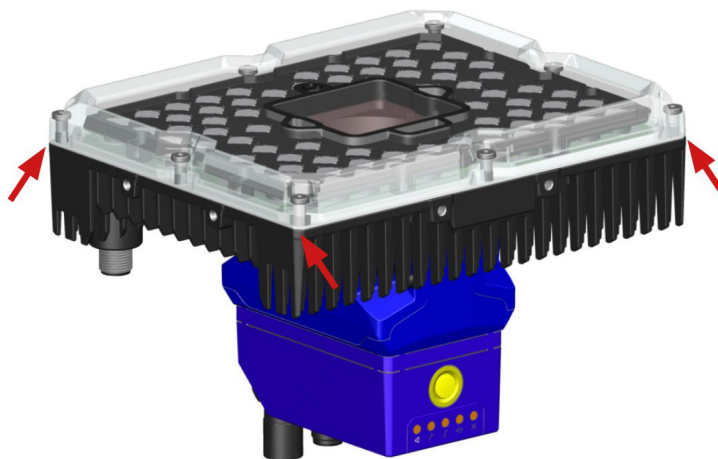

Figure 60 - Removing the cover (72 LEDs model)
2. Remove the cover manually by gently levering it from its corners, as illustrated in Figure 60.